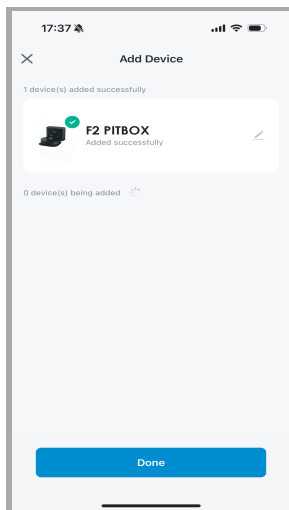
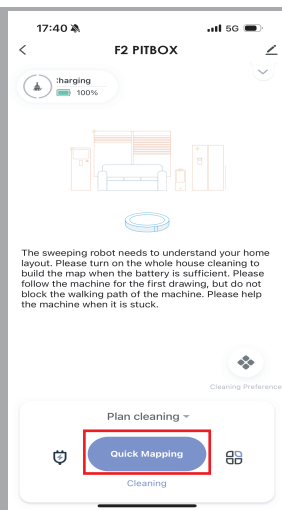
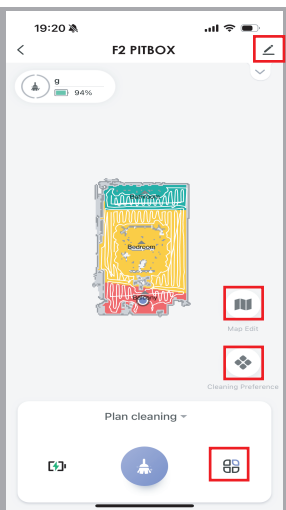

Fig.9
Fig.10
Fig.11
4). The App will connect the robot automatically (Fig.9, Fig.10).
**A).** Enter the interface of Fig.10, it provides users visibility of all operation buttons. Please place the robot on the station and make it fully charged, then **use "Quick mapping" to start cleaning** when you use the robot **at first time** or after you "reset home map", it will create a map of the room automatically (Fig.11).